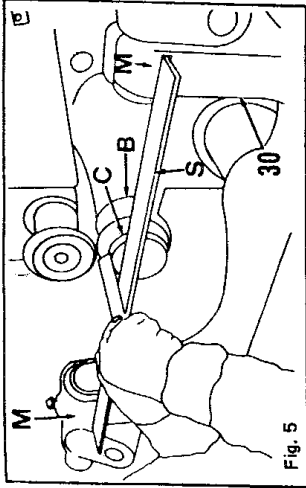

Fig. 5
2. Place 24" straightedge (S) (Fig. 5) against the milled sections (M) of yoke (30) and measure out 1-11/16" from the milled sections to point (C) of lower roll (B).